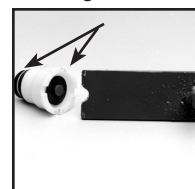

Figure 6.
7. Once the valve assembly is removed, the valve plates and O-rings can be replaced. The bottom valve plate is secured into place with a red retaining pin. Push pin into place using needle nose pliers. Figure 6.